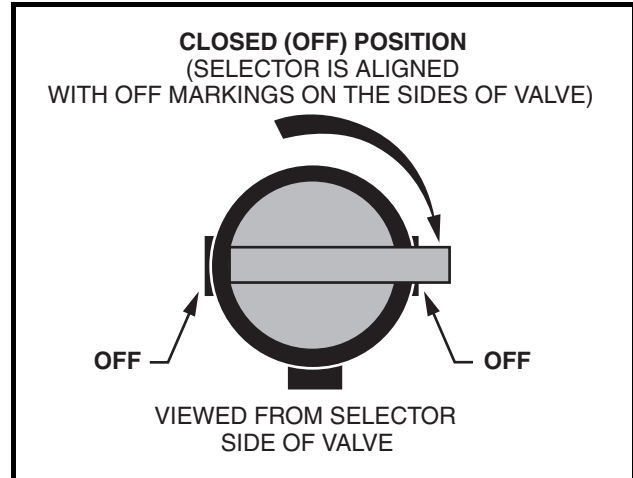

Figure 3-3 Fuel Shut-Off Valve – Closed Position
- Turn fuel shut-off valve to closed (OFF) position (Figure 3-3, Page 3-3).
- 3.1. Place the Forward/Reverse handle in the NEUTRAL position and the neutral lockout cam in the MAINTENANCE position. Turn the fuel shut-off valve to the closed (OFF) position (**Figure 3-3, Page 3-3**) and run the engine until fuel remaining in the carburetor and fuel lines is depleted and the engine stalls. Return the neutral lockout cam to the OPERATE position.